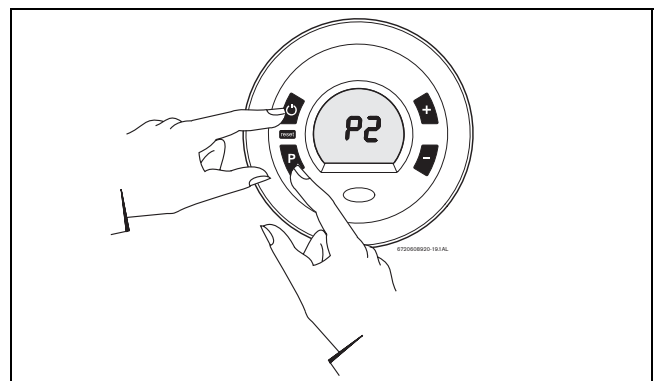

Fig. 60
- ▶ Press and hold "Program" button and press ON/OFF button to turn appliance ON (→ Fig. 60).